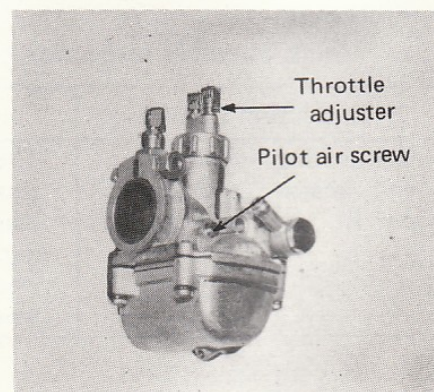

Fig. 3-68
Q. CARBURETOR (Figs. 3-68 & 3-69)